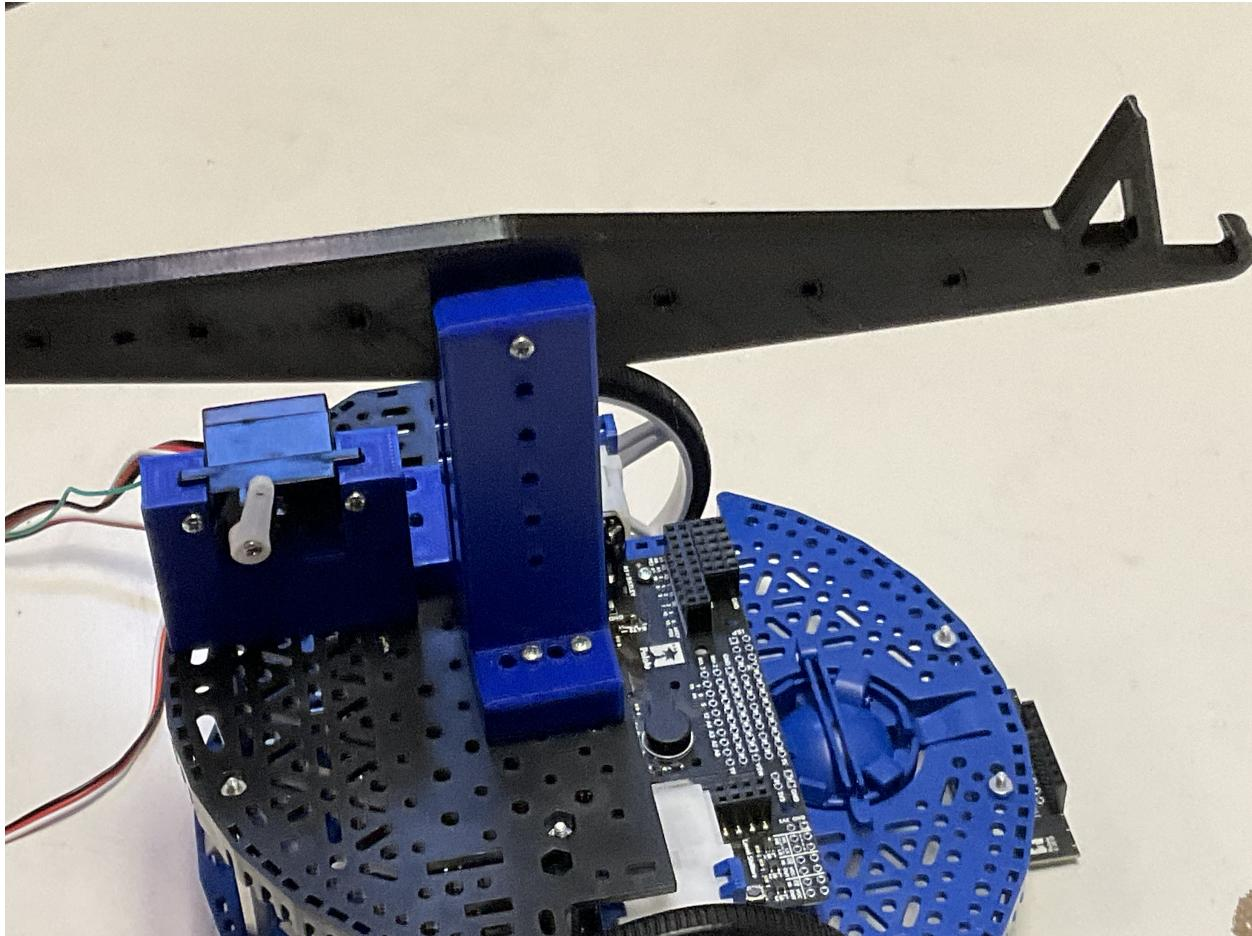

Figure 6: Arm attachment.
4. Attach the arm to the arm mount with a 1 1/4" screw as shown in Figure 6.